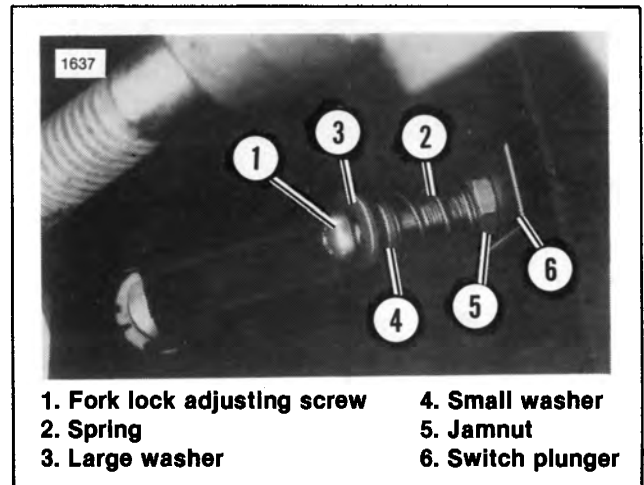

Figure 2-116. Lock Assembly
8. See Figure 2-116. Remove fork lock adjusting screw (1), jamnut (5), spring (2) and washers (4 and 3).
11. When correct distance and alignment is achieved, apply Loctite STUD 'N BEARING MOUNT to inner threads of adjusting screw (1, Figure 2-116) and tighten jamnut (5, Figure 2-116) over STUD 'N BEARING MOUNT against the switch plunger (6).